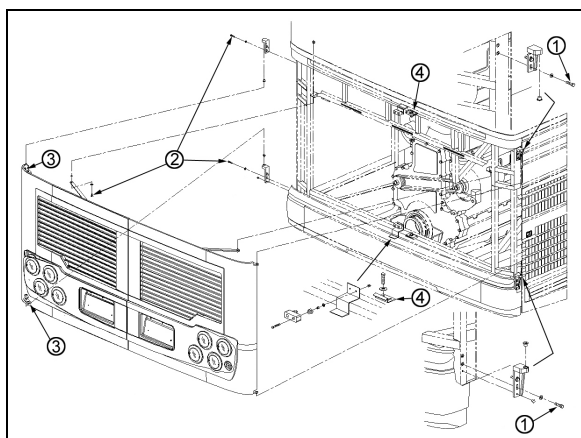

FIGURE 32: ENGINE COMPARTMENT DOORS 18633
1. Loosen the bolts, (1, 2 Fig. 32) holding the hinge to the vehicle structure to shift the door "UP or DOWN".
2. Loosening the bolts (3, Fig. 32) allows the door to be shifted "LEFT or RIGHT" and "IN or OUT".
To adjust the latch mechanism (4, Fig. 32) and the striker pin: